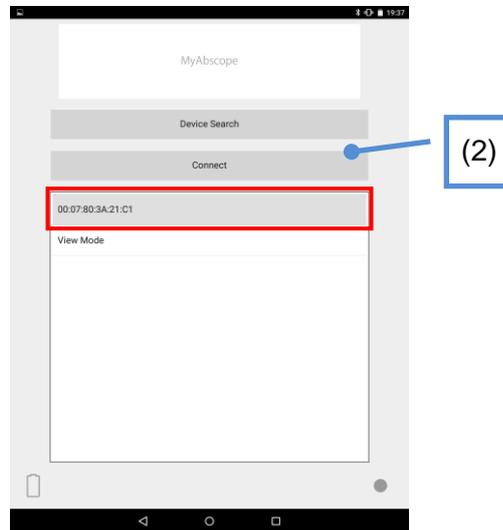

Figure 2-5: Display after the address is selected
- (5) Tap the same address (Bluetooth device address) as that written on the bottom of the main unit you intend to connect. The background color of the address changes (Figure 2-5) to indicate that it is selected.